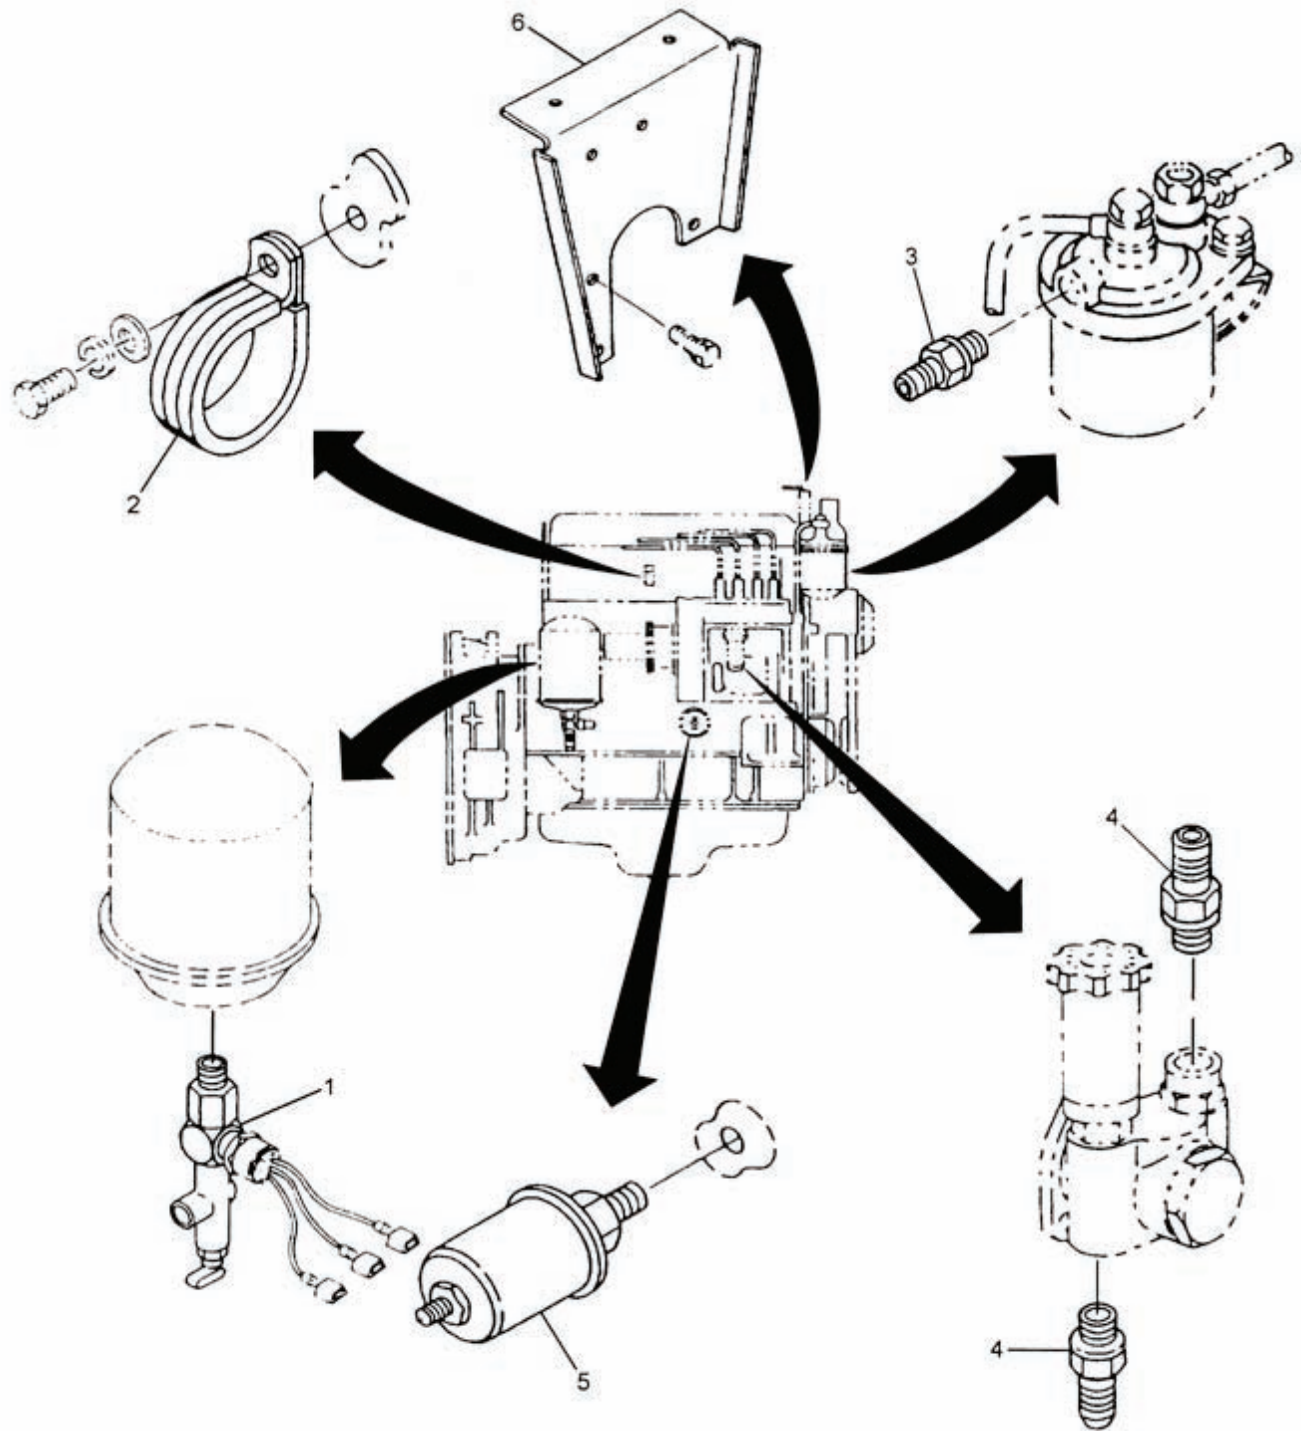

Figure 3-18. Engine Components – MEP-804A/MEP-814A.
- (1) Oil sample valve, low oil pressure switch, and fitting assembly (1, Figure 3-18).
- (2) Loop clamp (2, Figure 3-18). Use hardware from old engine.
- (3) Fuel filter fitting (3, Figure 3-18).
- (4) Fuel transfer pump fittings (4, Figure 3-18).
- (5) Oil pressure sender and fitting assembly (5, Figure 3-18).
- (6) Radiator support bracket (6, Figure 3-18). Use hardware from old engine.